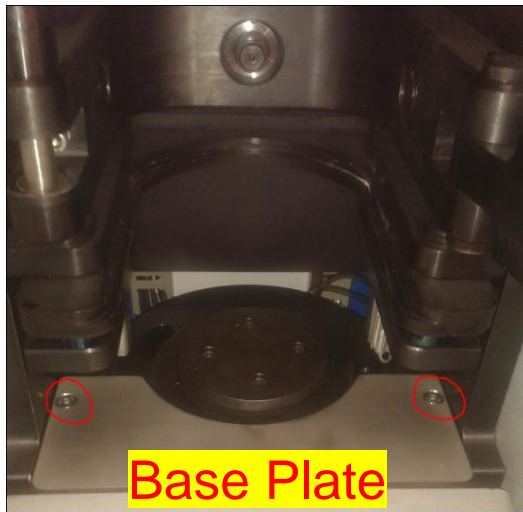

Figure 1
- f) Once the desired angle is set, put the base plate back and fasten the plate with 2 screws circled in above image (figure 1).